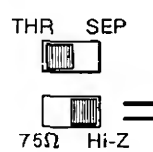

Fig. 2
When bridging or looping through the input signal, set the Termination Switch (11) to Hi-Z position (Fig. 2).